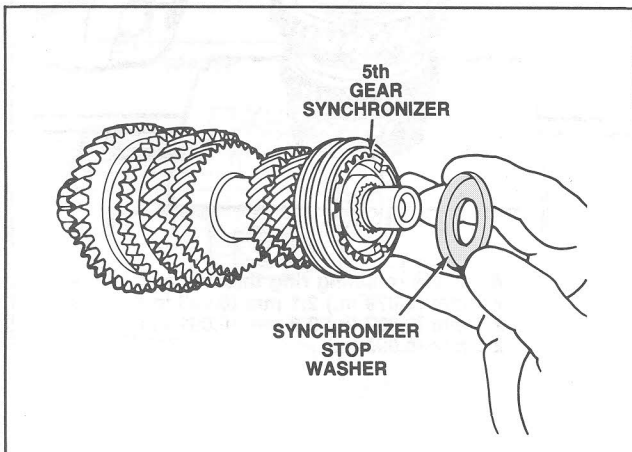

Figure 94 Stop Washer Installation
**NOTE:** The dished side of the washer faces the synchronizer. (Figure 94).